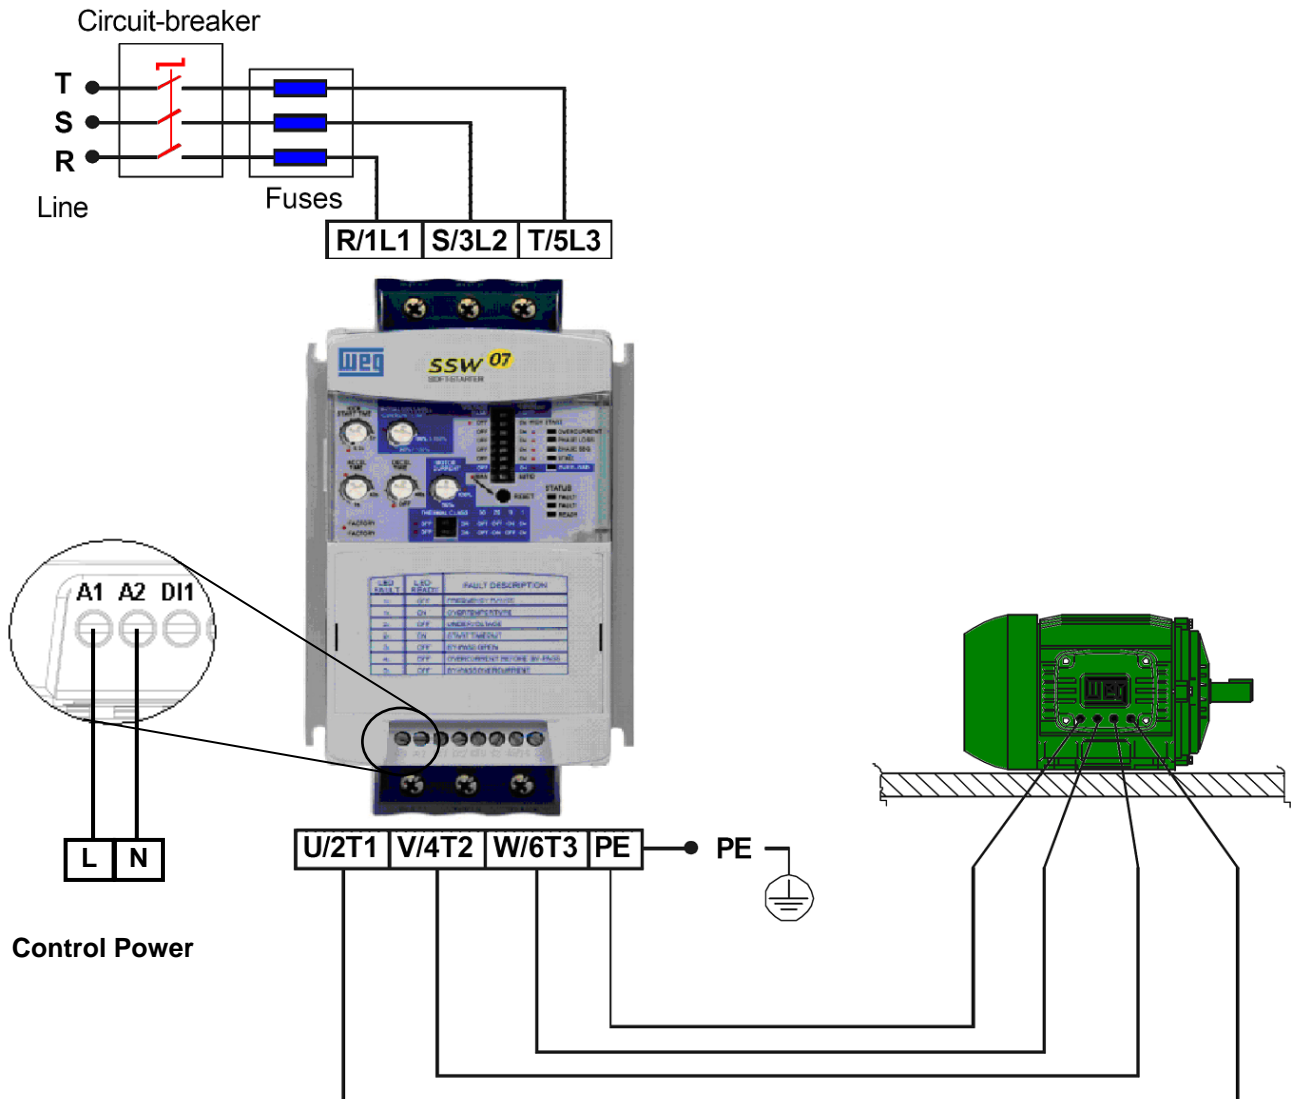

Figure 1 - Power and Grounding Connections
2. Connect the three-phase incoming power leads to the R, S, and T connections on the power terminal (refer to Figure 1). Connect the motor leads to the U, V, and W connections on the power terminal and connect the GROUND lead to PE on the chassis (refer to Figure 1), SSW07 Frame-1, 2 & 3. There is no "PE" terminal on Frame-4 SSW07 soft starters. **Note:** Only three-phase AC motors can be used.
3. Connect the control power line (L) and neutral (N) leads to the A1 and A2 connectors (refer to Figure 1). For Frame-4 (255 to 412A), please connect the ground wire along with Line (L) & Neutral (N).